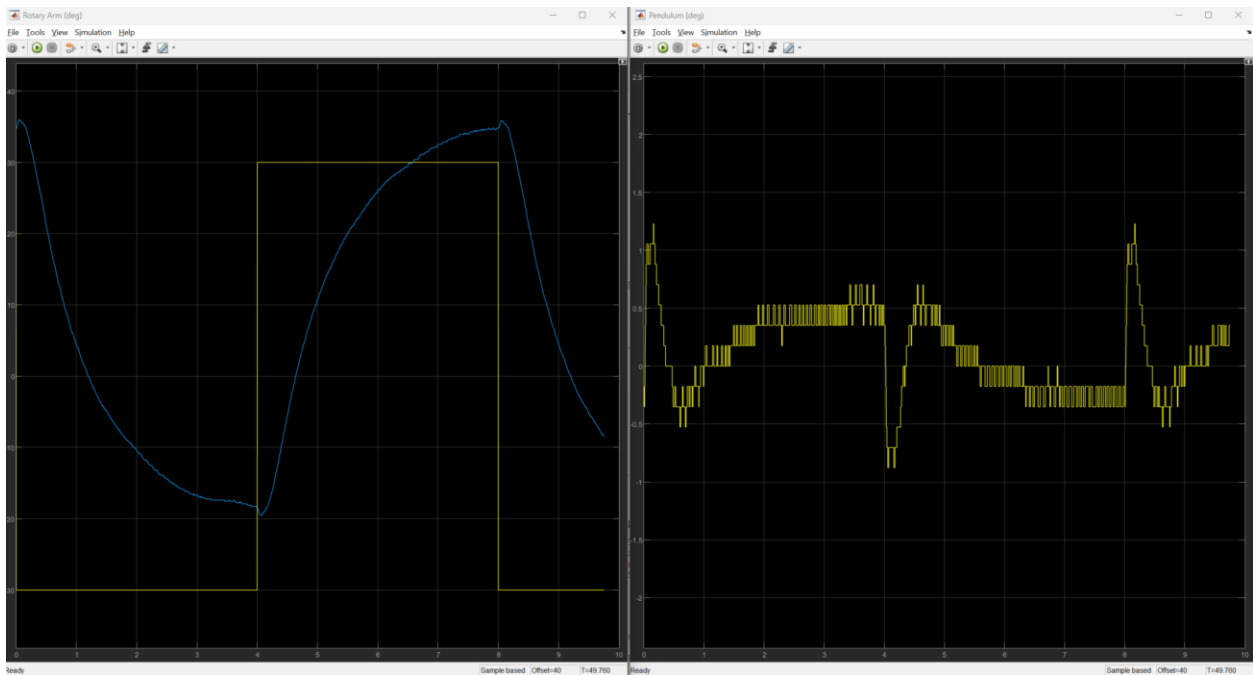

Figure 2: Sample response of balancing the pendulum between rotary arm angles.
21. Once the pendulum is balanced, set the **Gain** to 30 to make the rotary arm angle go between $\pm 30^\circ$. The scopes should be similar to Figure 2 below.